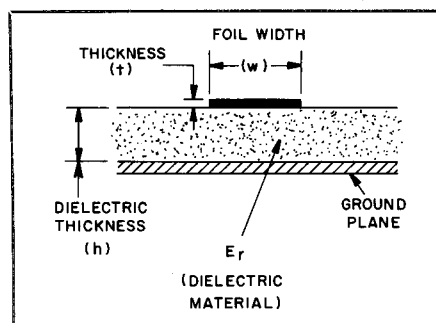

Fig 7—Cross-sectional view of typical microstripline construction.
To realize the total gain potential of MMICs at frequencies above 902 MHz, microstripline techniques are required. A cross-sectional view of a microstrip transmission line is shown in Fig 7. The actual impedance of the microstripline depends on the line width (W), the height of the line above the ground plane (h), and the dielectric constant (ϵ_r) of the material separating the line from the ground plane. Microstripline impedance calculations are beyond the scope of this article, but you can learn more about them from several